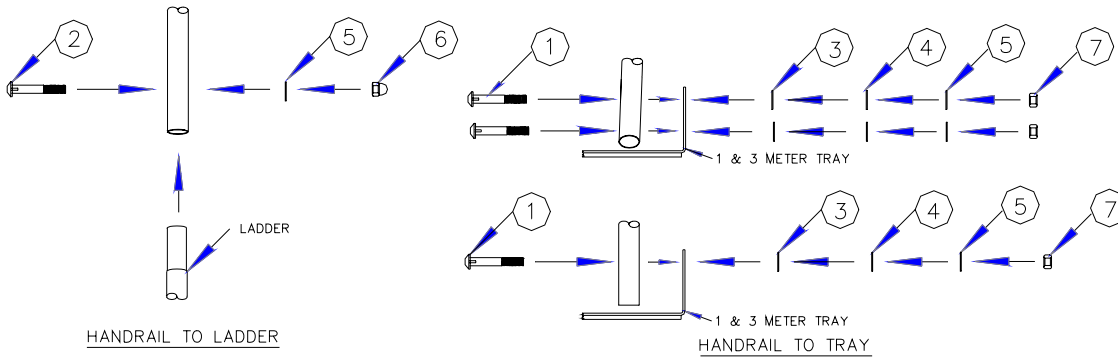

FIG. 11
- ① 1/16" X 5" DIA. RED RUBBER GASKET
- ② 1/2"-13UNC X 2" HEX HEAD CAP SCREW, C/S ZINC PLATED
- ③ 1/2" X 1-3/8" FLAT WASHER, C/S ZINC PLATED
- ④ 1/2" X 1-1/2" ROUND NYLON WASHER
- ⑤ 1/2" LOCK WASHER, SPLIT C/S ZINC PLATED
- ⑥ 1/2"-13UNC HEX NUT, C/S ZINC PLATED
- ⑦ 1/2" PLASTIC NUT CAP
8. Install Tray Handrails to Tray and Ladder Assembly according to Fig. 11 using hardware tightened between 15 and 20 ft. lbs. Do not over tighten.